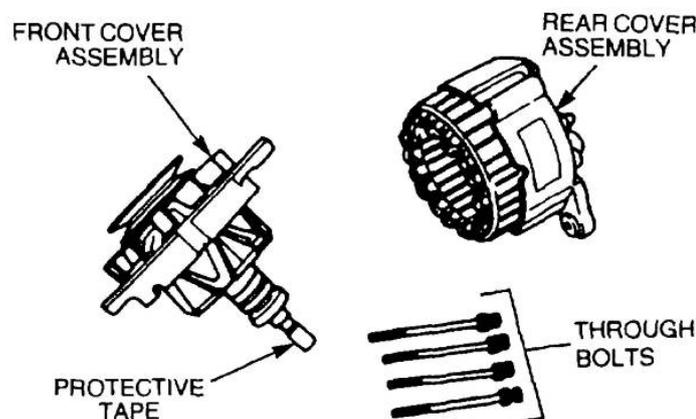

Figure 311 Removal of the Alternator Rear Cover
- d. Apply a suitable tape to the rotor shaft splines. Taking care not to dislodge the stator coils and damage the rear seal, remove the four through bolts that secure the rear cover to the front cover (Figure 311).